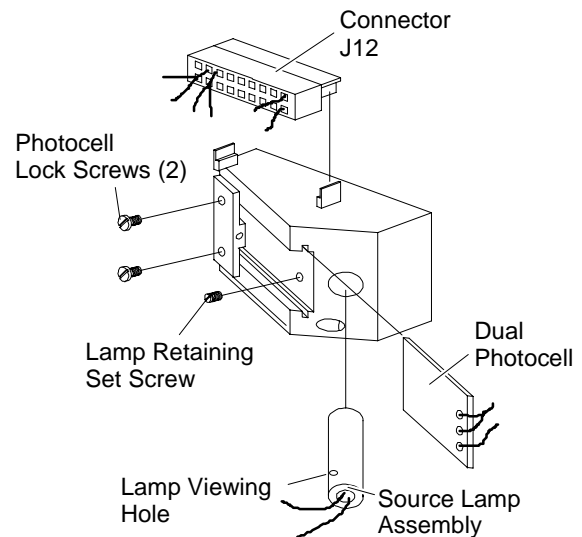

FIGURE 7-3. DETECTOR/MAGNET ASSEMBLY
1. Keeping power source ON, disconnect the leads of the photocell from connector J12. See Figures 7-3, 7-4.
3. Refer to Figure 7-3. Using needle-nose pliers, squeeze the hose clamps to disconnect the rubber sample lines from the metal inlet and outlet tubes of the detector assembly.
2. Refer to Figure 7-3. Carefully remove the small rubber hose connected from the detector/magnet assembly to the detector.
12. Refer to Figure 7-3. Remove the two screws holding the Connector Board to the magnet assembly. Carefully remove Connector Board.